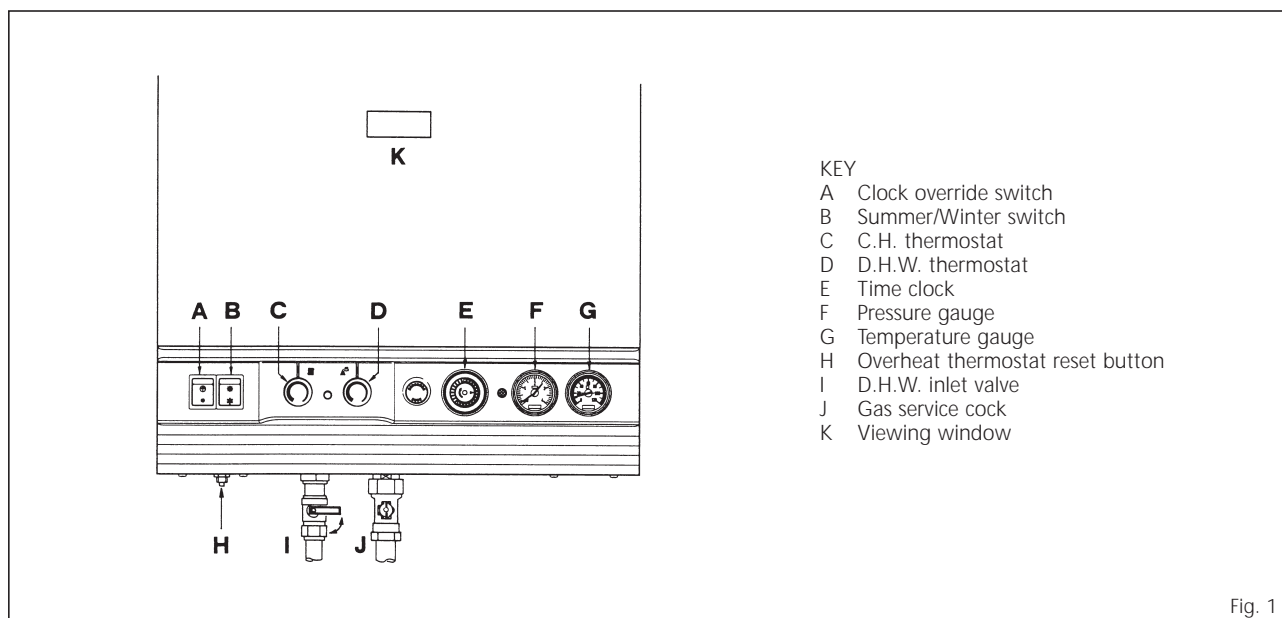

Fig. 1
1.3.1 To light the appliance (see fig. 1)
- Check that the electricity supply is off and that the D.H.W. isolation valve (I) is in the open position (lever vertical). Check that the gas supply is on.
- Turn the Summer/Winter switch (B) to SUMMER (water only) position "☀".
- Switch on the electricity supply and full open any D.H.W. tap. The burner will light. Check that the burner has lit by looking through the viewing window (K). If the burner fails to light, press the overheat thermostat reset button (H) once and the burner should now light. Turn off the tap.
- Check that the room thermostat (if fitted) is calling for heat and turn the clock override switch (A) to the ON position "●". Turn the heating thermostat (C) to maximum (fully clockwise).
1.3.2 To turn the appliance off (see fig. 1)
If this occurs, allow the appliance to cool and press the overheat thermostat reset button (H fig. 1) once and light the boiler as described in section 1.3.1 above.
The gauges (G - F fig. 1) on the facia panel indicate the approximate system temperature and pressure. If the normal running pressure is seen to decrease over a period of time there is a water leak and you should consult your installer or service engineer.
NOTE: an interruption in the electricity supply whilst the burner is alight may cause the overheat thermostat to operate. If this is suspected, depress the reset button (H fig. 1) once.